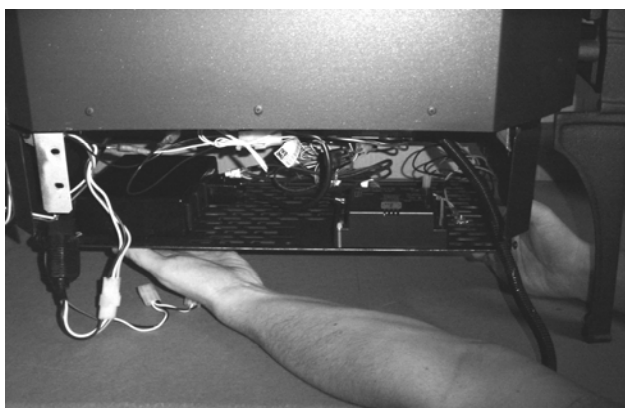

Figure 32
- 21 Re-attach the bottom plate to stove, taking care to prevent any wiring from being pinched (see Figure 32). Use the included wire ties, if necessary, to keep all wiring from contacting any hot or moving components. Attach the back panel.